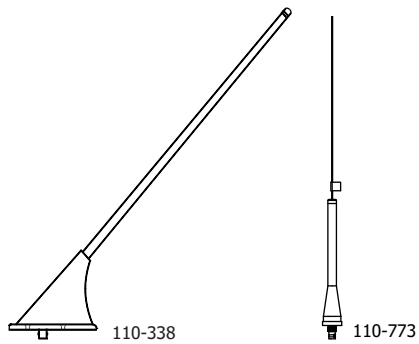

Figure 6 Antennas
- (5) Two antennas are approved for use with the ME406 Series ELT. Selection of the proper antenna is dependent upon end use, aircraft configuration and speed, and other factors. See Figure 6 Antennas.